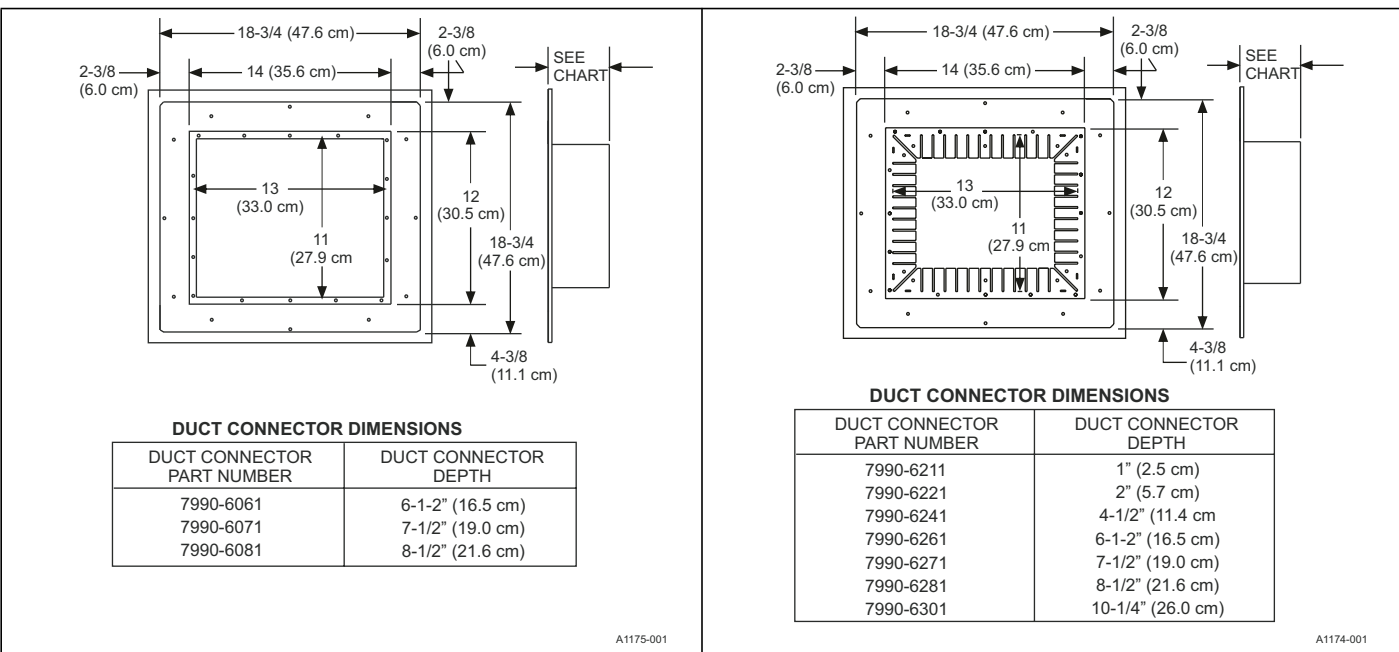

Figure 6: Duct connector dimensions - in. (cm)
2. Determine the depth of the floor cavity from the surface of the floor to the top of the supply air duct and select the appropriate duct connector from the chart. See Figures 6 and 8.